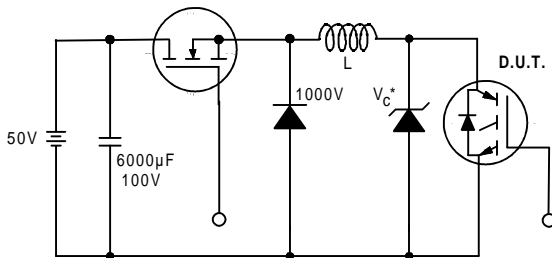

Figure 19. Clamped Inductive Load Test Circuit
② $V_{CC} = 80\% (V_{CES}), V_{GE} = 20V, L = 10\mu H, R_G = 5.0\Omega$ (figure 19)
③ Pulse width $\leq 80\mu s$; duty factor $\leq 0.1\%$.
④ Pulse width $5.0\mu s$, single shot.